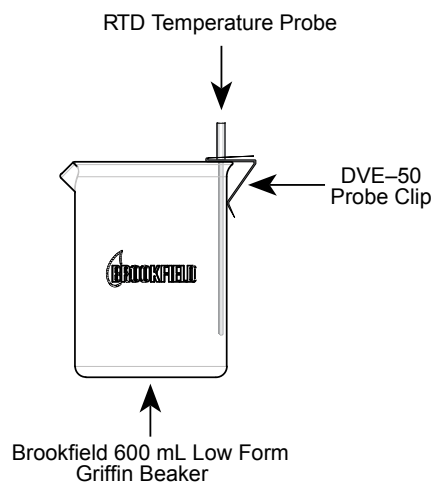

Figure J-3
*Note:* All Viscometer/Rheometer models — except LV — use the Probe Clip as shown in Figure J-3.
Figure J-3 shows the Probe Clip mounted in a 600 mL low form Griffin beaker. This mounting may be used with LV, RV, HA and HB series instruments.